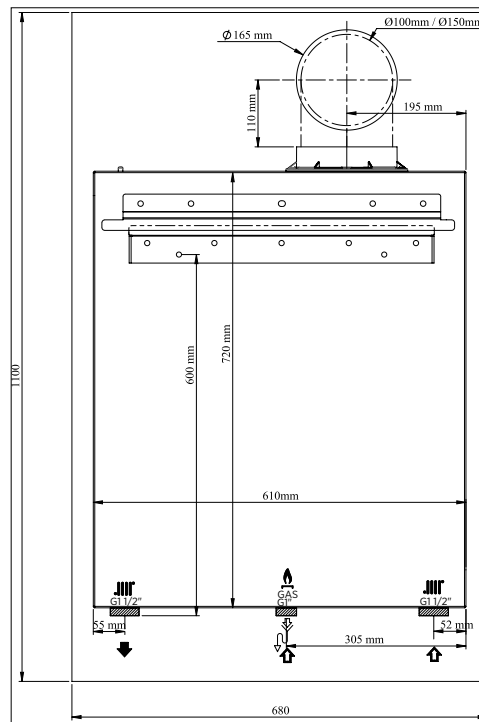

Figure 2.1 Mounting Template of Viwa 125 & Viwa 150 (Back view)
I. Mounting Template (Figure 2.1 and 2.2)